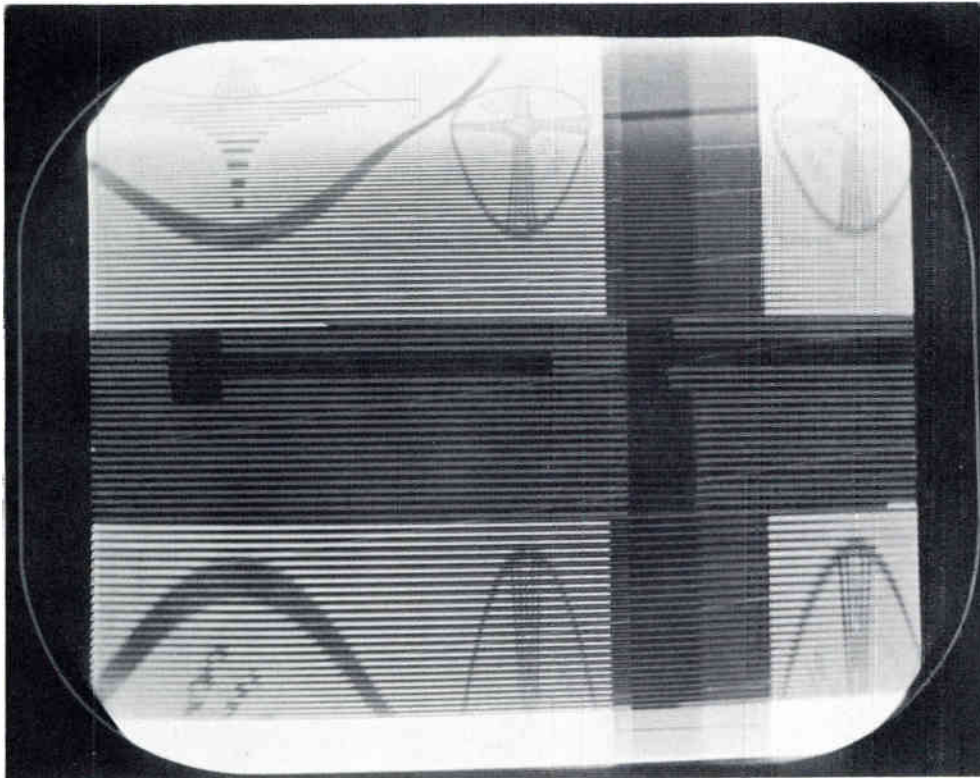

Figure 4 - Pulse Cross Display, Expanded
3. Press the CRO EXPAND pushbutton which will expand the picture vertically as shown in Figure 4.